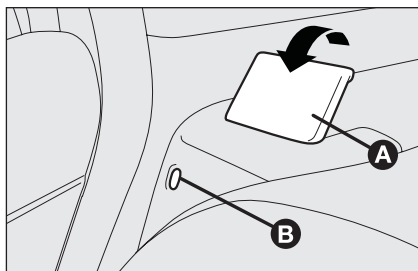

fig. 3
**IMPORTANT** When the seat back is coupled properly, the “red band” **B**-fig. 3 present side lever **A** disappears. The “red band” actually indicates improper seat back coupling.
*Make sure the seat back is correctly hooked on both sides (“red bands” B-fig. 3 not visible) to prevent seat back being thrown forwards and injuring passengers should you brake sharply.*